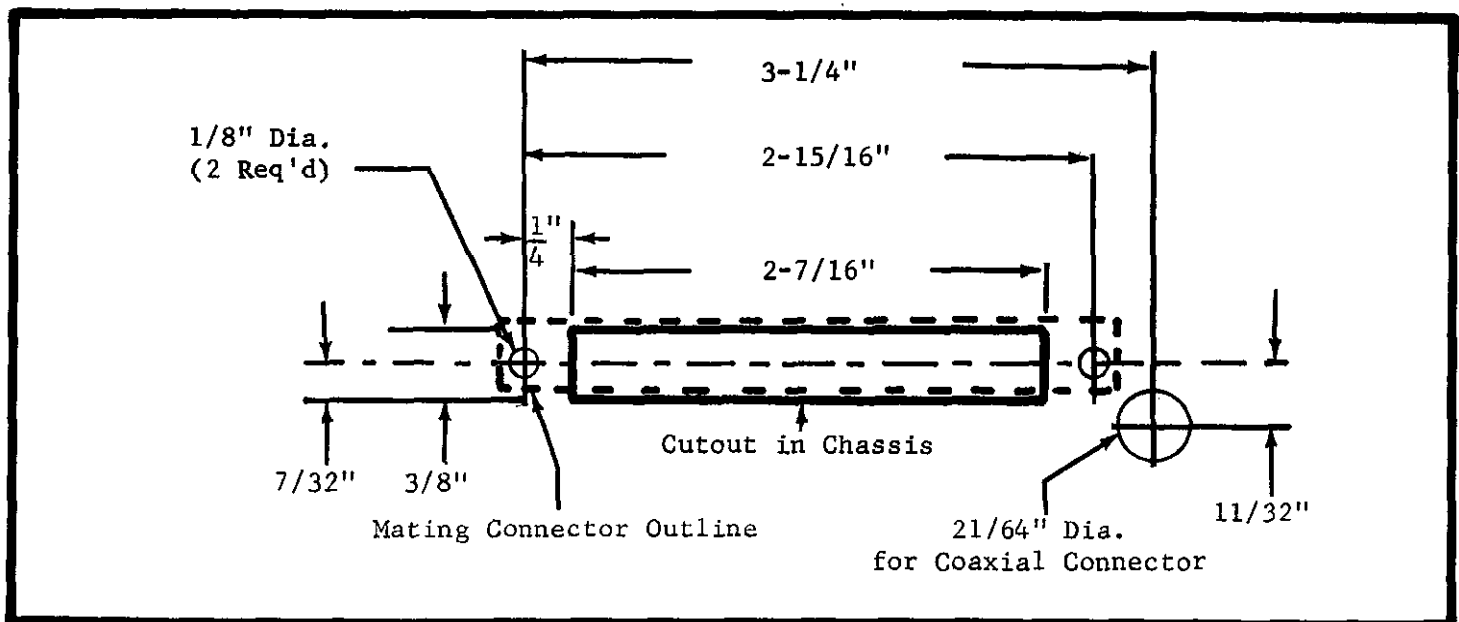

FIGURE 3. Mounting Hole Diagram. This gives dimensions for mounting mating connectors, Keithley Part Nos. CS-175-15 and CS-179.
c. Mounting the mating connectors CS-179 and CS-175-15. (See Figure 3 for dimensions.)
3. Drill the 21/64-inch diameter hole for the mating coaxial input connector. (Refer to Figure 3 for exact positions.)